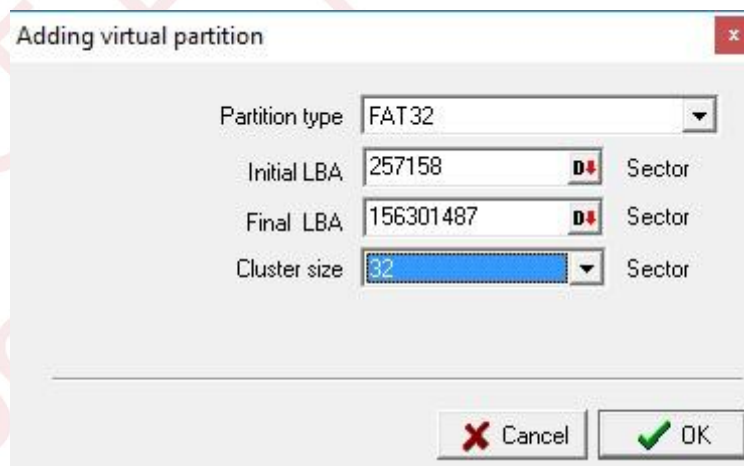

Fig. 6.4.
- 5) Open the Explorer and use the mouse to select PC3000 ATA0 in its Folders window. Right-click the selection to open the context menu and proceed to “Add virtual partition”. In the displayed dialog, specify the settings as shown in **Fig. 6.4**. The “Final LBA” field value will depend on the drive capacity. The value in the figure is for the MK8010GAH model. Click OK.